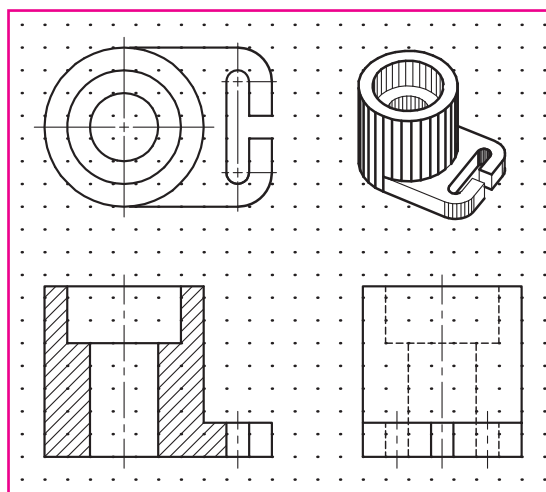

Fig. 12-15
7. Draw the three orthographic views of the bushing holder shown in Fig. 12-15. Use a grid spacing of .2 and a snap setting of .1. Consider using construction lines or rays to help you position the views. The front view is shown as a full section view; *i.e.*, it is shown as if the object has been cut in half. The diagonal lines indicate cut material. You may want to use the **Offset** option of the **XLIN** command to create them at even intervals.